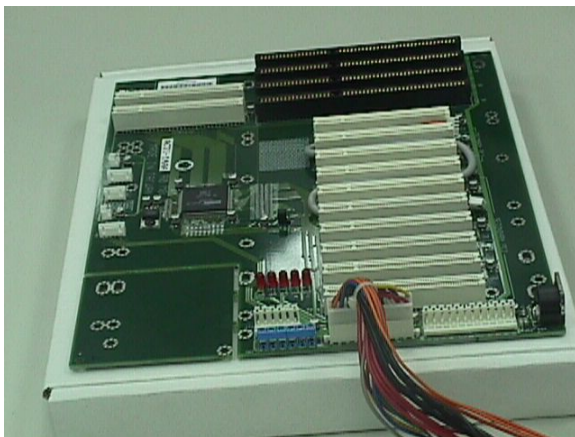
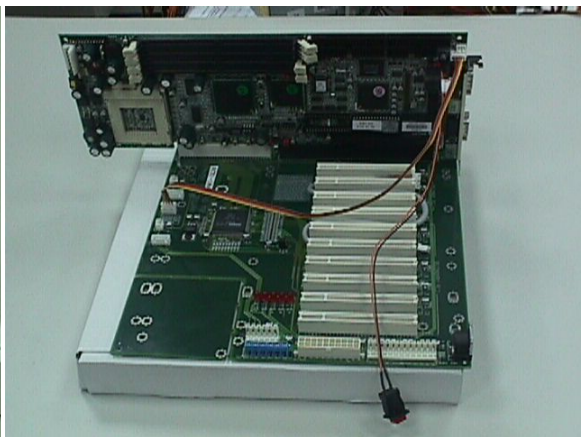

Fig.3
Fig.4
2. If you are using ATX power supply, please apply the 20-pin ATX power connector over ATX connector (**Fig.3**). Besides, you need to apply one 4-pin ATX power control cable between your SBC and backplane over the 4-pin header J1. (A toggle switch is required over your SBC for this application, **Fig.4**).